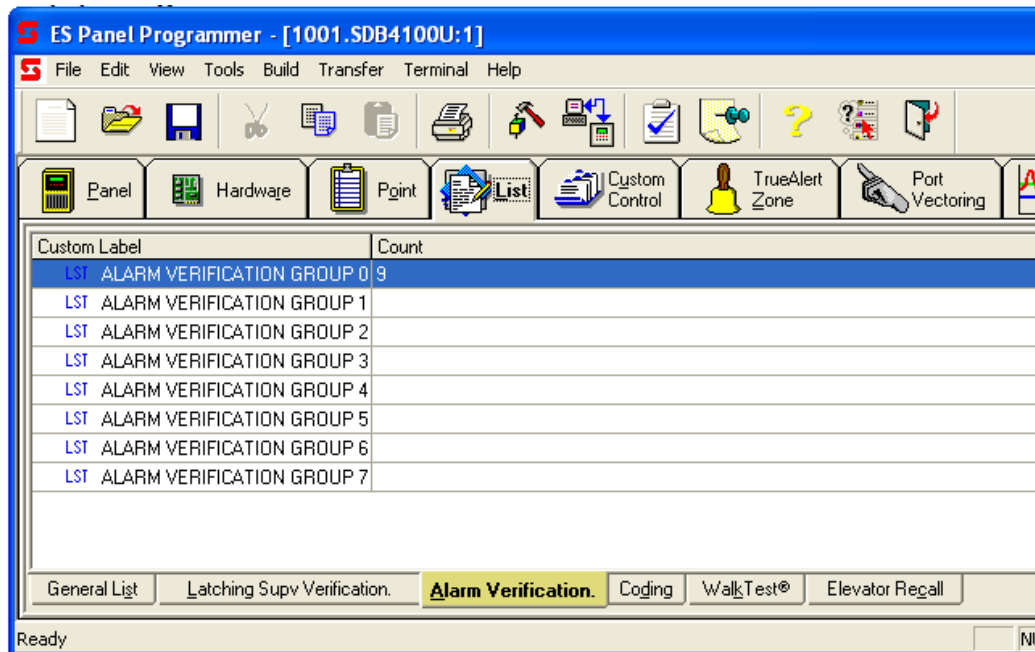

Figure 9-9. Alarm Verification Tab
2. Click on the **Alarm Verification** tab at the bottom of the List Window. A screen similar to the one shown in Figure 9-9 appears.